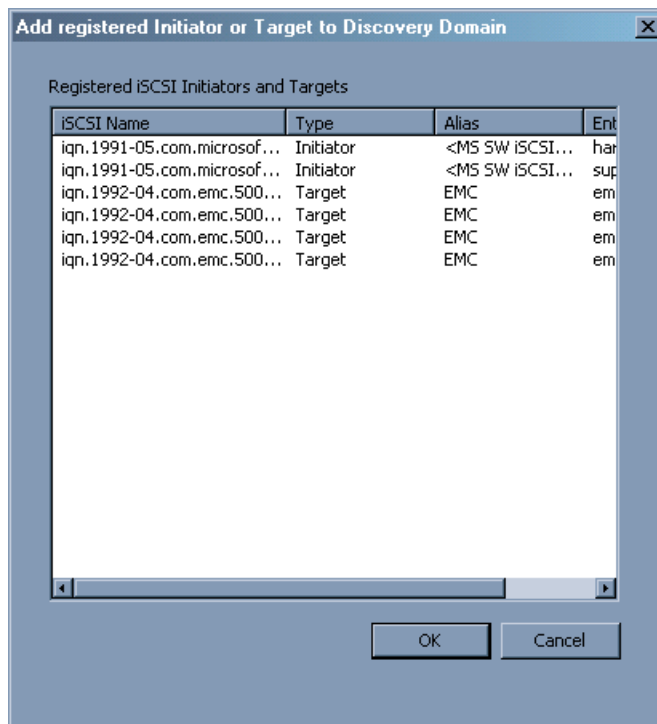

Figure 30 Add registered Initiator or Target to Discovery Domain
3. With the DD name selected on the **Discovery Domains** tab (Figure 29), click **Add** to add target and initiator members to the DD (Figure 30 on page 117).